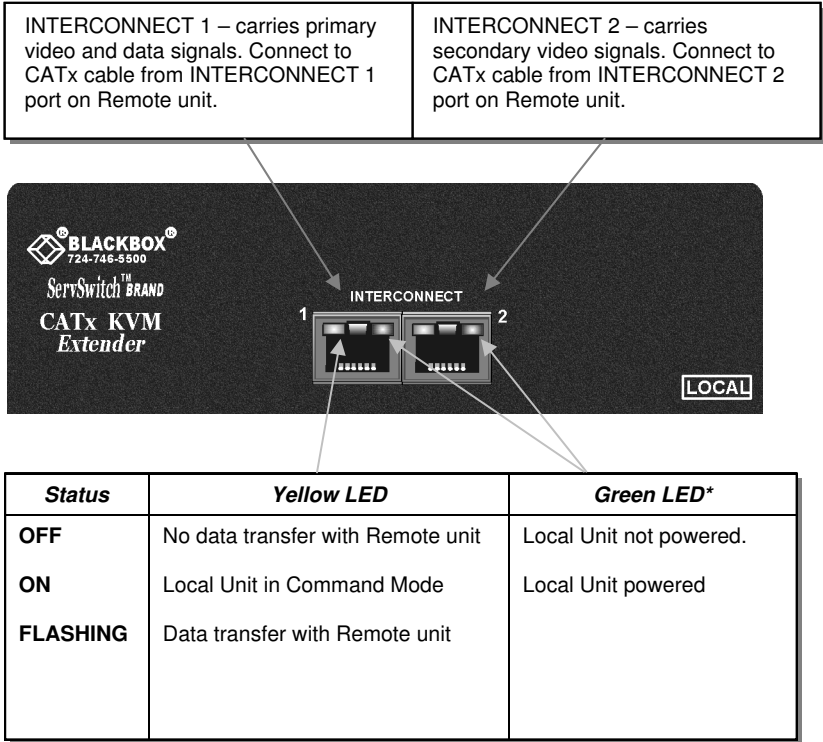

Figure 5 Local Unit – front view
6. Connect the CATx cables from the Remote unit to the corresponding INTERCONNECT ports (1&2) on the Local unit (see Figure 5).
- Illuminates the yellow channel 1 LED continuously (see Figure 5).